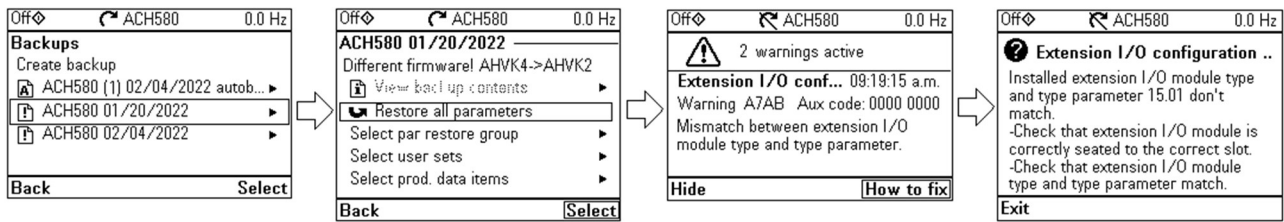

Figure 3 Partly compatible restore with warnings
- Providing warnings and **How to fix** information, as shown in Figure 3.